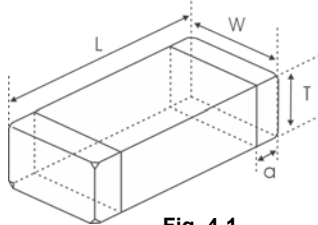
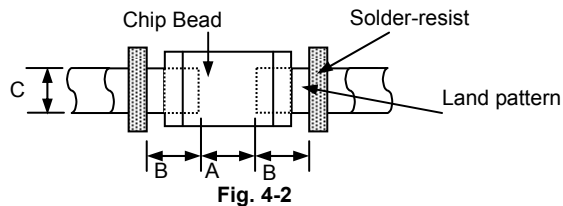

Fig. 4-1
Fig. 4-2
- Dimensions and recommended PCB pattern for reflow soldering: See **Fig.4-1**, **Fig.4-2** and **Table 4-1**.